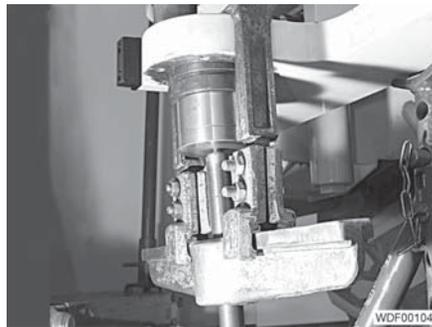

Fig. 305 Driving tool
- Put the bearing into position and press it in using a suitable pressing tool (Fig. 305).